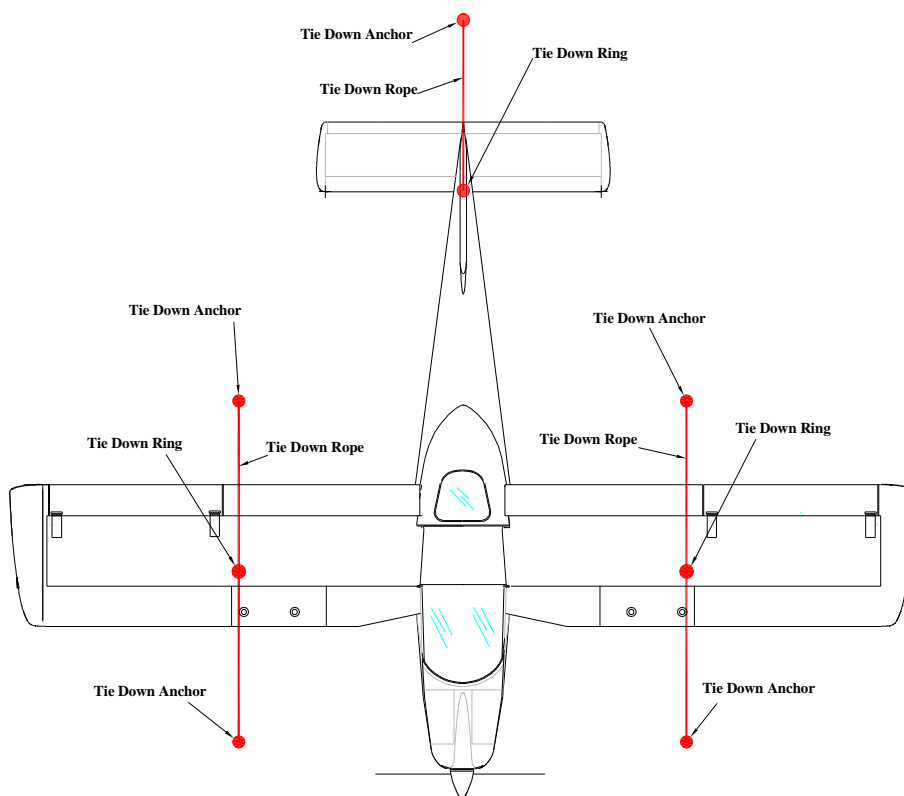

Fig. 7-1. CABLE POSITIONING
5. Secure tie-down ropes to the wing tie-down rings and to the tail ring at approximately 45-degree angles to the ground, in longitudinal direction (see Fig.7-1).